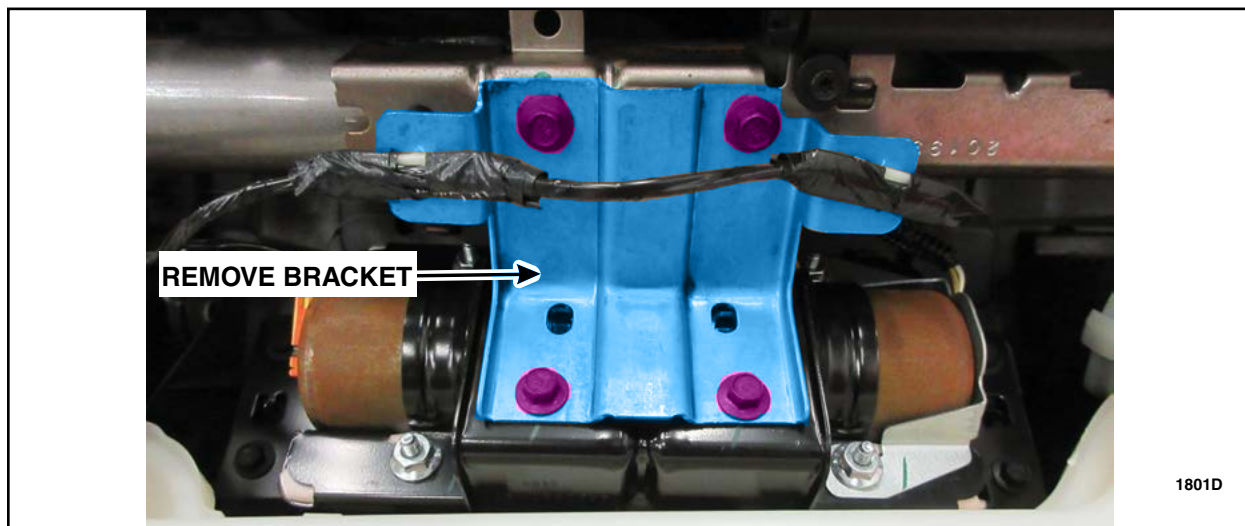

FIGURE 5
- Remove the instrument panel crossmember-to-airbag module bracket. See Figure 5.
- Install the instrument panel crossmember-to-airbag module bracket. See Figure 5.